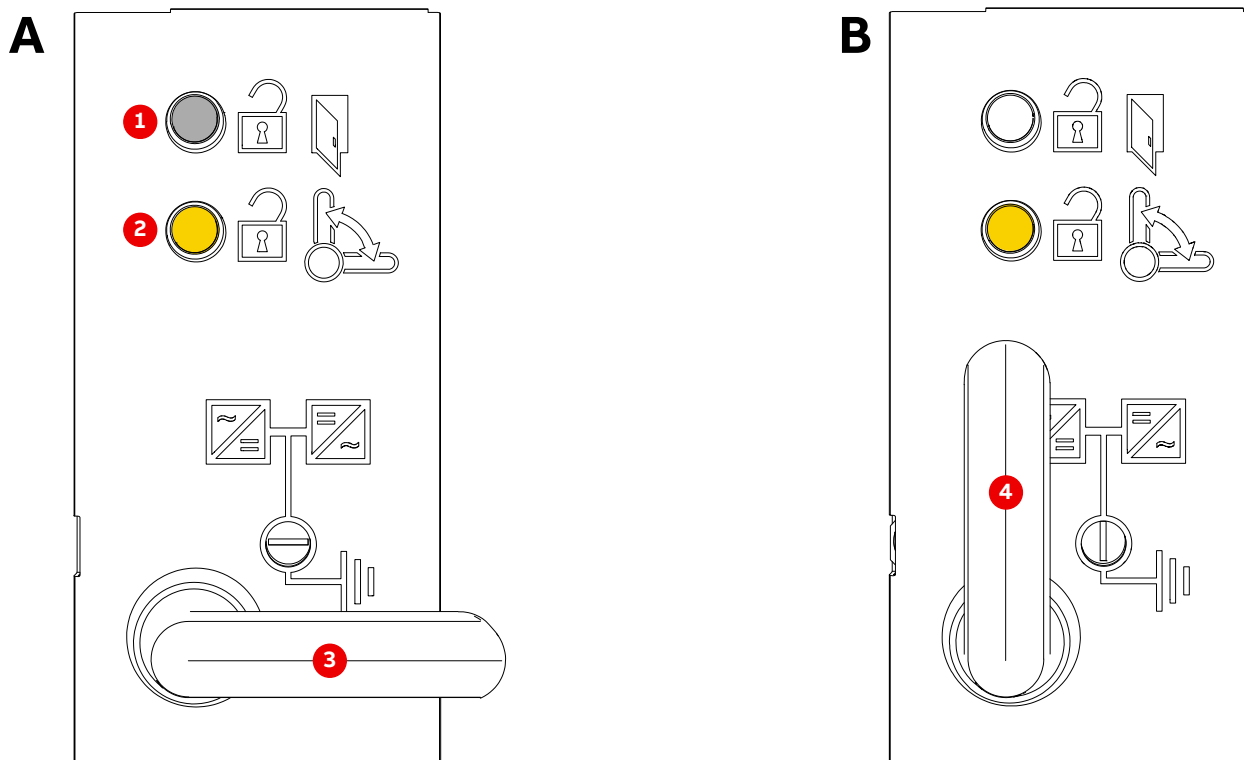

Figure 8–6 CBU grounding switch in ungrounded (A) and grounded (B)
| <p>1) White illuminated push button:DC link is grounded</p> <ul style="list-style-type: none"> <li>• Lights up to indicate that the drive is grounded and that the locking bar (see 1 in Fig. 8–7) of each medium voltage unit can be moved to the unlocked or locked position.</li> </ul> <p>2) Yellow illuminated push button: grounding switch unlocked</p> <ul style="list-style-type: none"> <li>• Lights up to indicate that the grounding switch can be turned to the ungrounded or grounded position.</li> <li>• Press the yellow push button to turn the grounding switch to the desired position.</li> </ul> | <p>3) Grounding switch in ungrounded position (A)</p> <p>4) Grounding switch in grounded position (B):When the switch is in grounded position, the DC link of the drive is connected to the ground busbar of the drive.</p> |